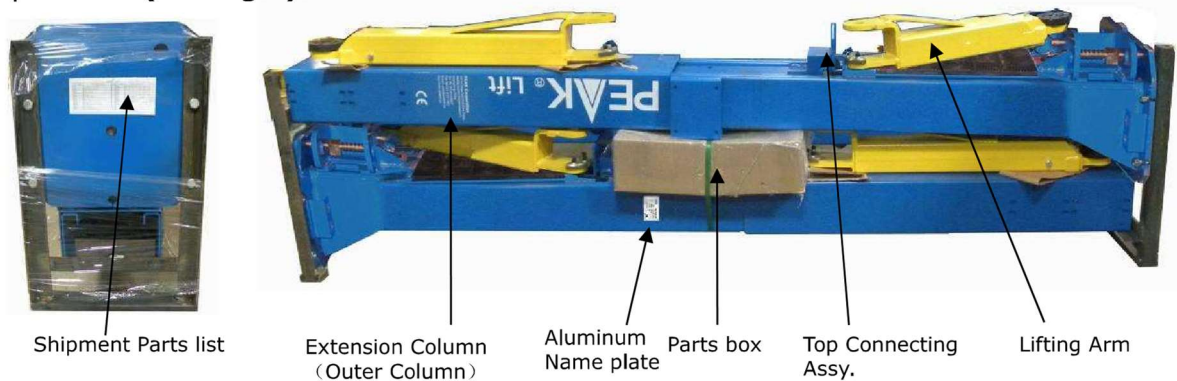

Fig. 7
2. Move aside the lift with fork lift or hoist, and open the extension packing carefully, take off the lifting arms and parts box from upper and inside the column, then move them to location nearby installation site, check the parts according to the shipment parts list (See Fig.7).